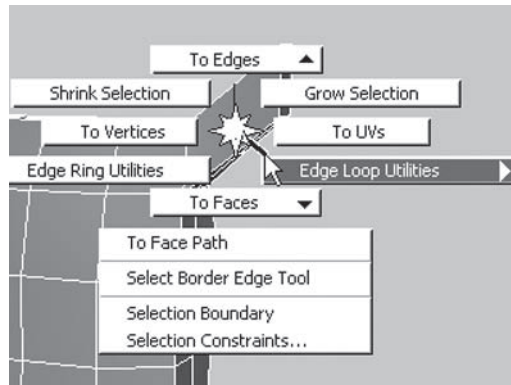

FIGURE 3.74 Edge Loop Utility marking menus.
11. Select Edge Loop Utilities > To Edge Loop. This selects all the edges on that loop, as shown in Figure 3.74.